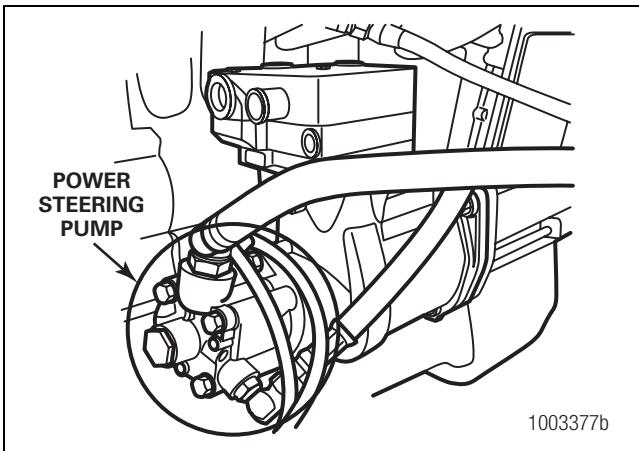

Figure 2
5. **Through-drive version air compressor only:** If there is a power steering pump installed at the **back** of the compressor, remove the power steering pump. Figure 2. Disconnect the power steering pump. Refer to the manufacturer's manual for specific information. It is not necessary to remove pumps installed at the front of the compressor.